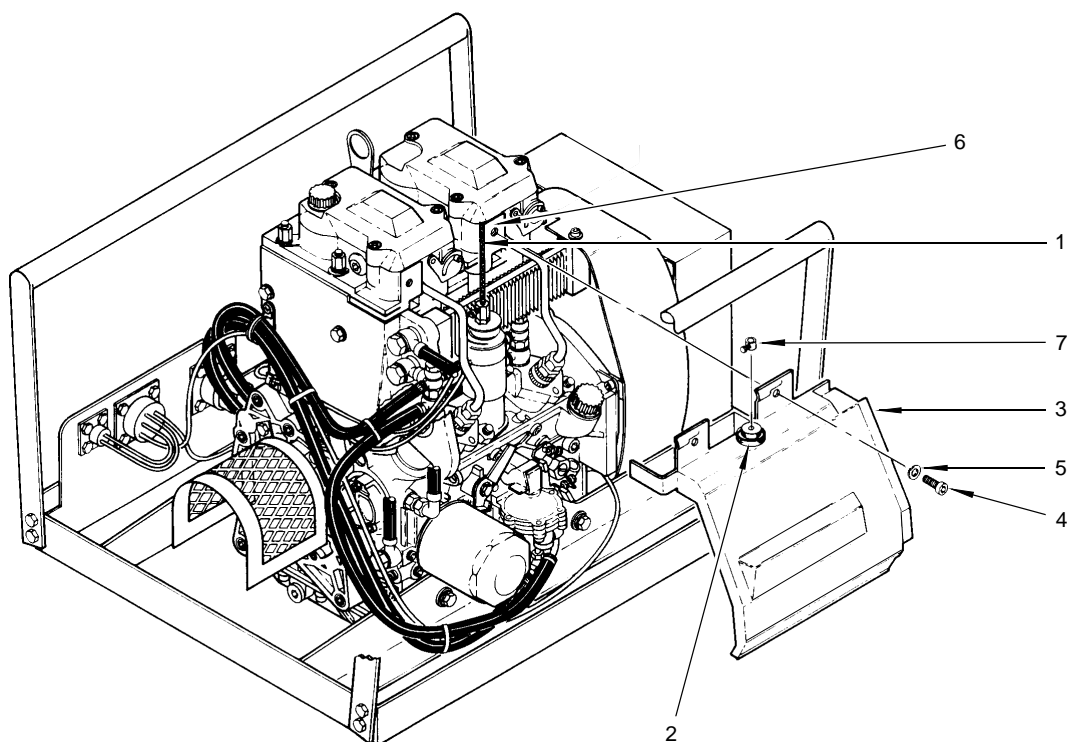

Figure 36. Casing Installation
**INSTALL CASING** (Refer to Figure 36.)**INITIAL SET-UP:****Tools:**